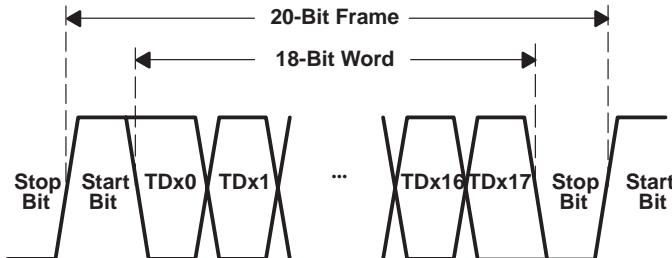

Figure 3. Serial Output Data Stream With Start and Stop Bit
All true serial interfaces require a method of encoding to ensure minimum transition density so that the receiving PLL has a minimal number of transitions in which to stay locked onto the data stream. The signal encoding also provides a mechanism for the receiver to identify the word boundary for correct deserialization. The TLK4120 wraps a start bit (1) and a stop bit (0) around the 18-bit data payload as shown in Figure 3. This is transparent to the user, as the TLK4120 internally adds the framing bits to the data such that the user reads and writes actual 18-bit data.
The parallel-to-serial shift register takes in the 20-bit wide frame multiplexed from the framing logic and converts it to a serial stream. The shift register is clocked on both the rising and falling edges of the internally generated bit clock, which is 10 times the GTx_CLK input frequency. The LSB (TDx0) is first out after the start bit as shown in Figure 3.